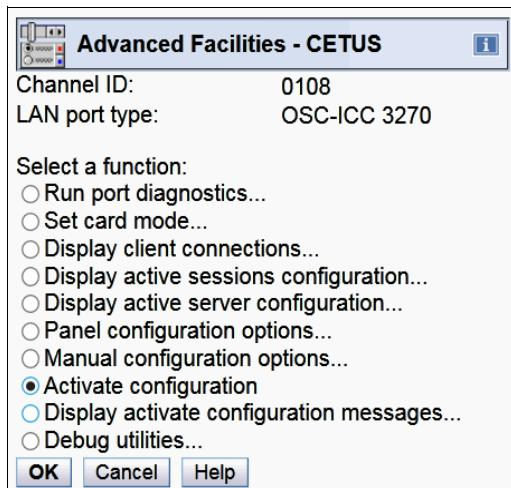

Figure 7-11 Activate configuration
14. When the validation is complete without any errors, you can activate the OSA-ICC configuration. To activate configuration, exit the **Panel Configuration Options** window by clicking **Cancel**, then select **Activate configuration** in the Advanced Facilities window (Figure 7-11).